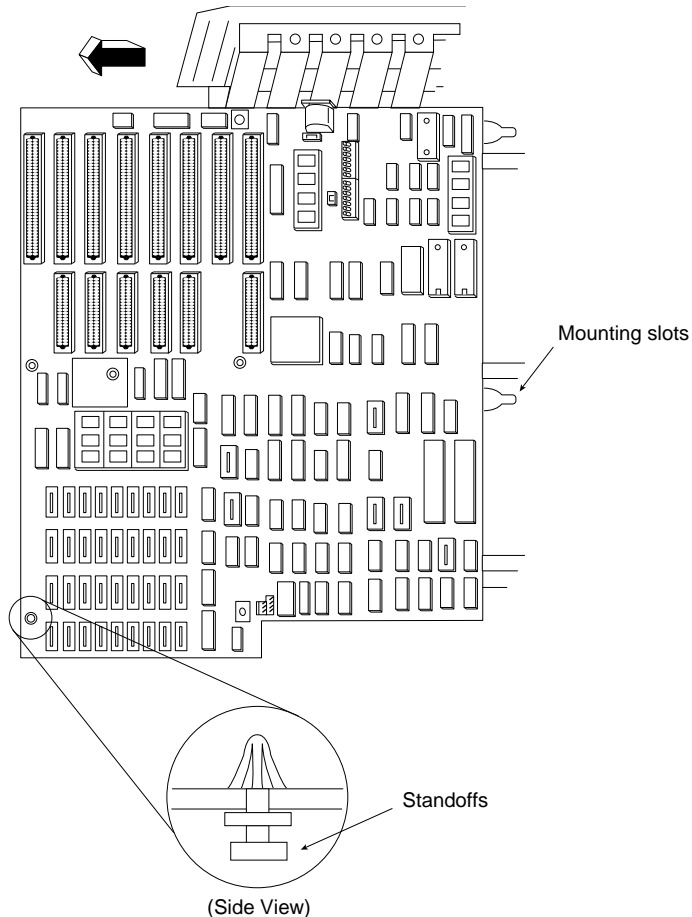

FIG. 3.7 Disengage standoffs from their mounting slots.
6. Slide the motherboard away from the power supply about a half-inch, until the standoffs have disengaged from their mounting slots (see Figure 3.7).